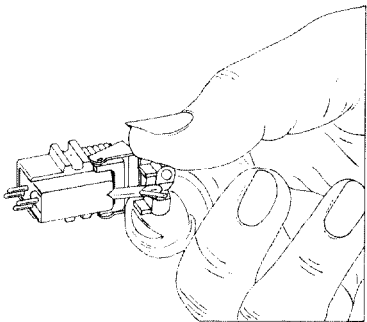

FIGURE 2
1. Remove stylus (see Figure 2).